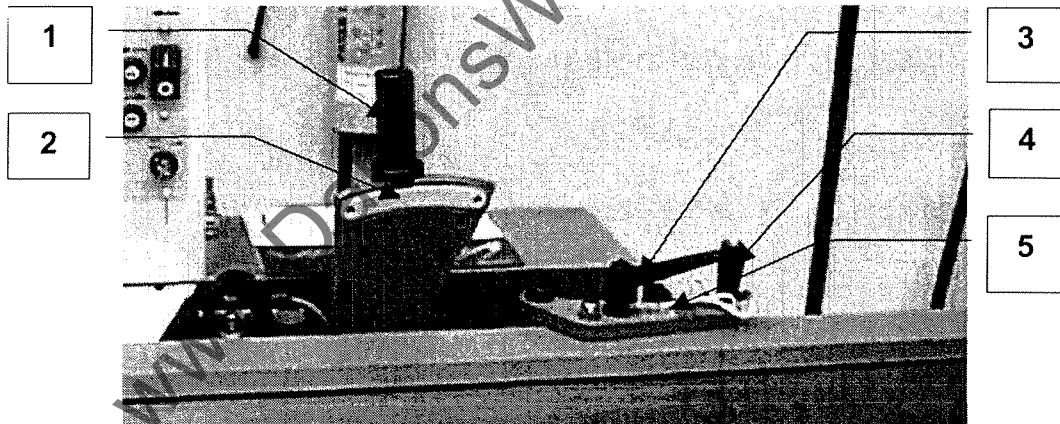

Figure 5.9
5. 9 Infeed Table and Fence Adjustment (Figure 5.9)